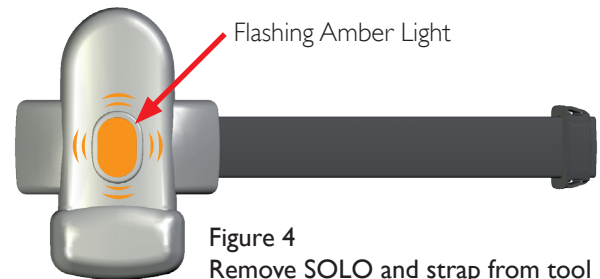

Figure 4
7. Close the strap-fitting-lever and remove the SOLO and strap from the tool. **(Figure 4)**